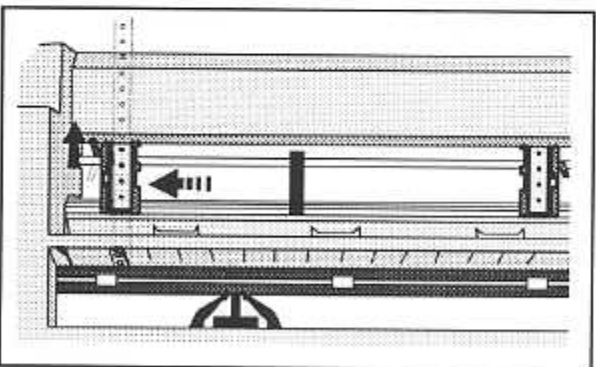

Figure 3-6. Aligning the Left Tractor
4. Slide the left tractor as needed so that the pin belt aligns with the circles on the paper scale. Then, lock the left tractor into place, as shown in figure 3-6.